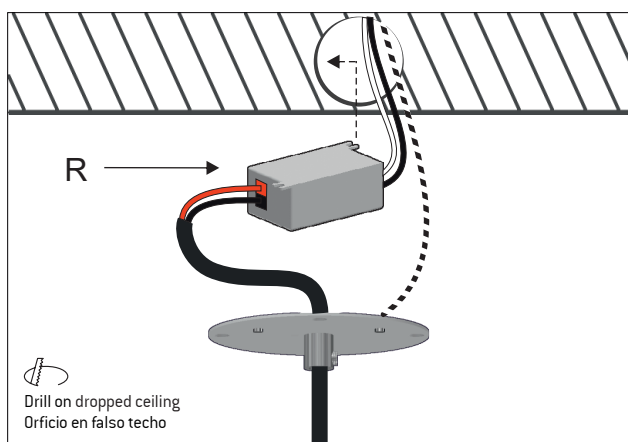

Figure 12
The ceiling hole should measure 55mm of diameter. Make the electrical connections and place the remote driver (R) inside the ceiling. Figure 12.